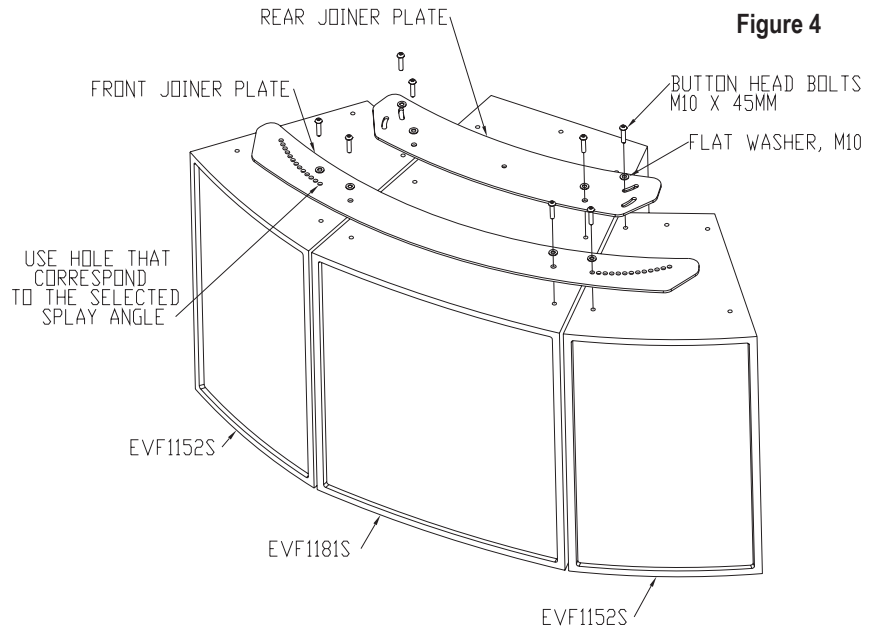
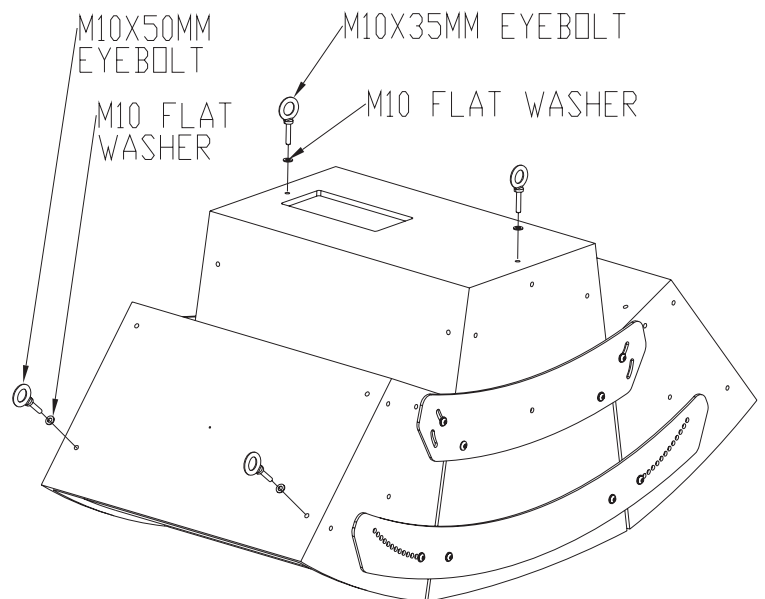

Figure 4
Figure 5
Flip speakers so that the bottom is facing up. Arrange speaker so that the EVF1181S is in between the EVF1152S. Unscrew existing speaker screws and discard (Figure 4).
Step 13: Install the rear joiner plate on the two middle rigging inserts of the EVF1181S subwoofer using the provided screws and washers. Attach the two EVF1152S side speakers with the EVF1181S subwoofer using the lower slots of the rear joiner plate with the provided screws and washers (Figure 4).
Step 14: Install the front joiner plate on the two front rigging inserts of the EVF1181S subwoofer using the provided screw and washer. Determine the holes to use for the selected splay angle (Figure 2) then secure the EVF1152S side speakers to the front joiner plate using the provided screws and washers (Figure 4). Do not tighten screws; leave it snug until all plates are in position.
Step 17: Figure 5 Install the two m10x 50mm long eyebolt on the side rigging inserts of the selected upper Figure 4 speakers Install the two m10x35 mm long on the rear rigging inserts of the EVF1181S or to the rear rigging insert of the bottom EVF1152S (depending on the desired tilt angle) for pull back points (Figure 5).